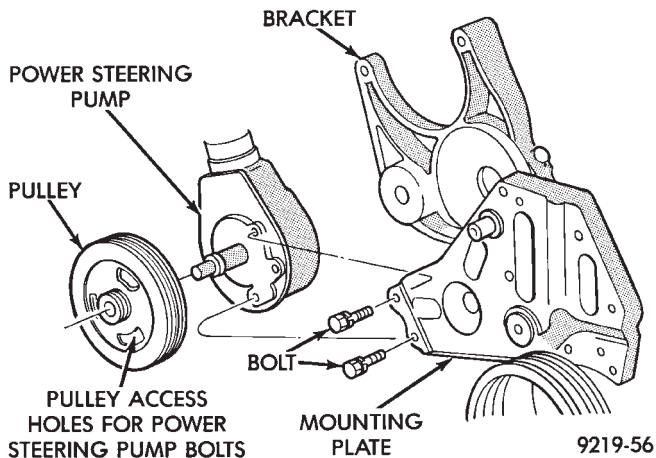

Fig. 8 Power Steering Pump Mounting 3.0L
(9) Remove the 2 bolts that mount the front of the power steering pump to the mounting plate (Fig. 8).
(1) Install the power steering pump assembly back in vehicle in reverse order of removal.
(2) Hold power steering pump against mounting plate. Align power steering pump mounting holes with mounting holes in plate and install bolts (Fig. 8). Torque the 2 power steering pump to mounting plate bolts to 54 N•m (40 ft. lbs.).